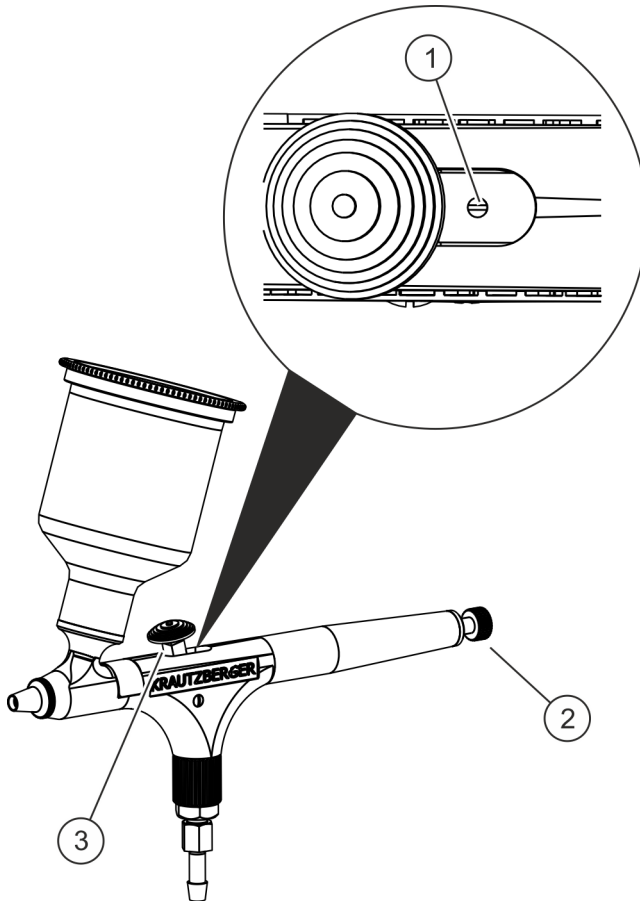

Fig. 5: Set pre-air
1. ➤ Loosen screw (Fig. 5/1) of actuator.
2. ➤ Carefully push the needle into the fluid nozzle by turning the adjustment screw (Fig. 5/2).
3. ➤ Pull back the pull lever (Fig. 5/3) until the desired pre-air volume escapes.
4. ➤ Tighten screw (Fig. 5/3) of actuator.